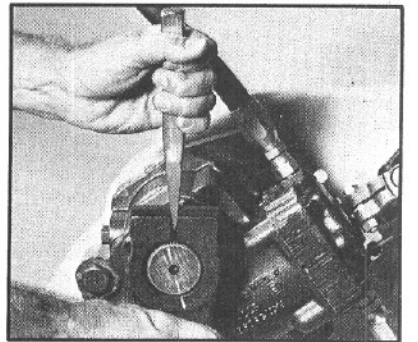

Figure 15
- 1.10 Reconnect the pitman arm, making sure that the timing mark on the pitman arm aligns with the timing mark on the sector shaft (FIG. 15).